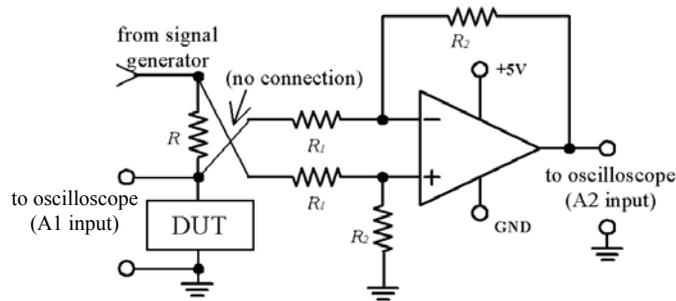

Figure 6: Schematic for the curve-tracer circuit.
1. Build the curve-tracer circuit as shown in Figure 6, with $R = 50 \Omega$ and $R_1 = R_2 = 10 \text{ k}\Omega$.